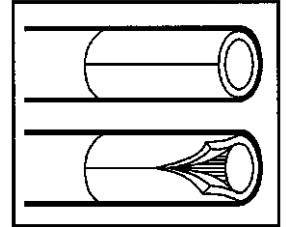

FIG 3
4. Depending upon the type of insulation either a longitudinal or spiral cut can now be performed (as shown in Figs 3 and 4) by rotating the handle to the desired position. For a longitudinal cut set to the white mark and with an even pressure pull the tool to the end of the cable. For a spiral strip set to the blue mark, and again with an even pressure rotate the tool around the cable to complete the strip. The insulation can now be pried off with fingers or pliers.